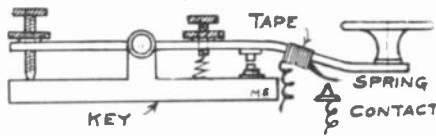

FIG. 1
- FIG. 1 -
On the sending key, a special contact is placed (Fig. 1). This is made of a